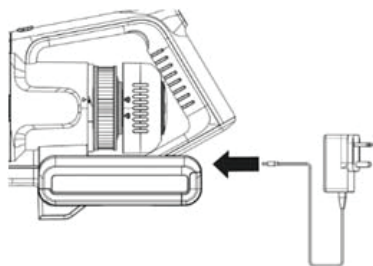

Fig. 1
2. Insert the adapter cord into the DC jack at the end of the vacuum cleaner handle and plug the adapter into the mains supply socket. (Fig. 1)